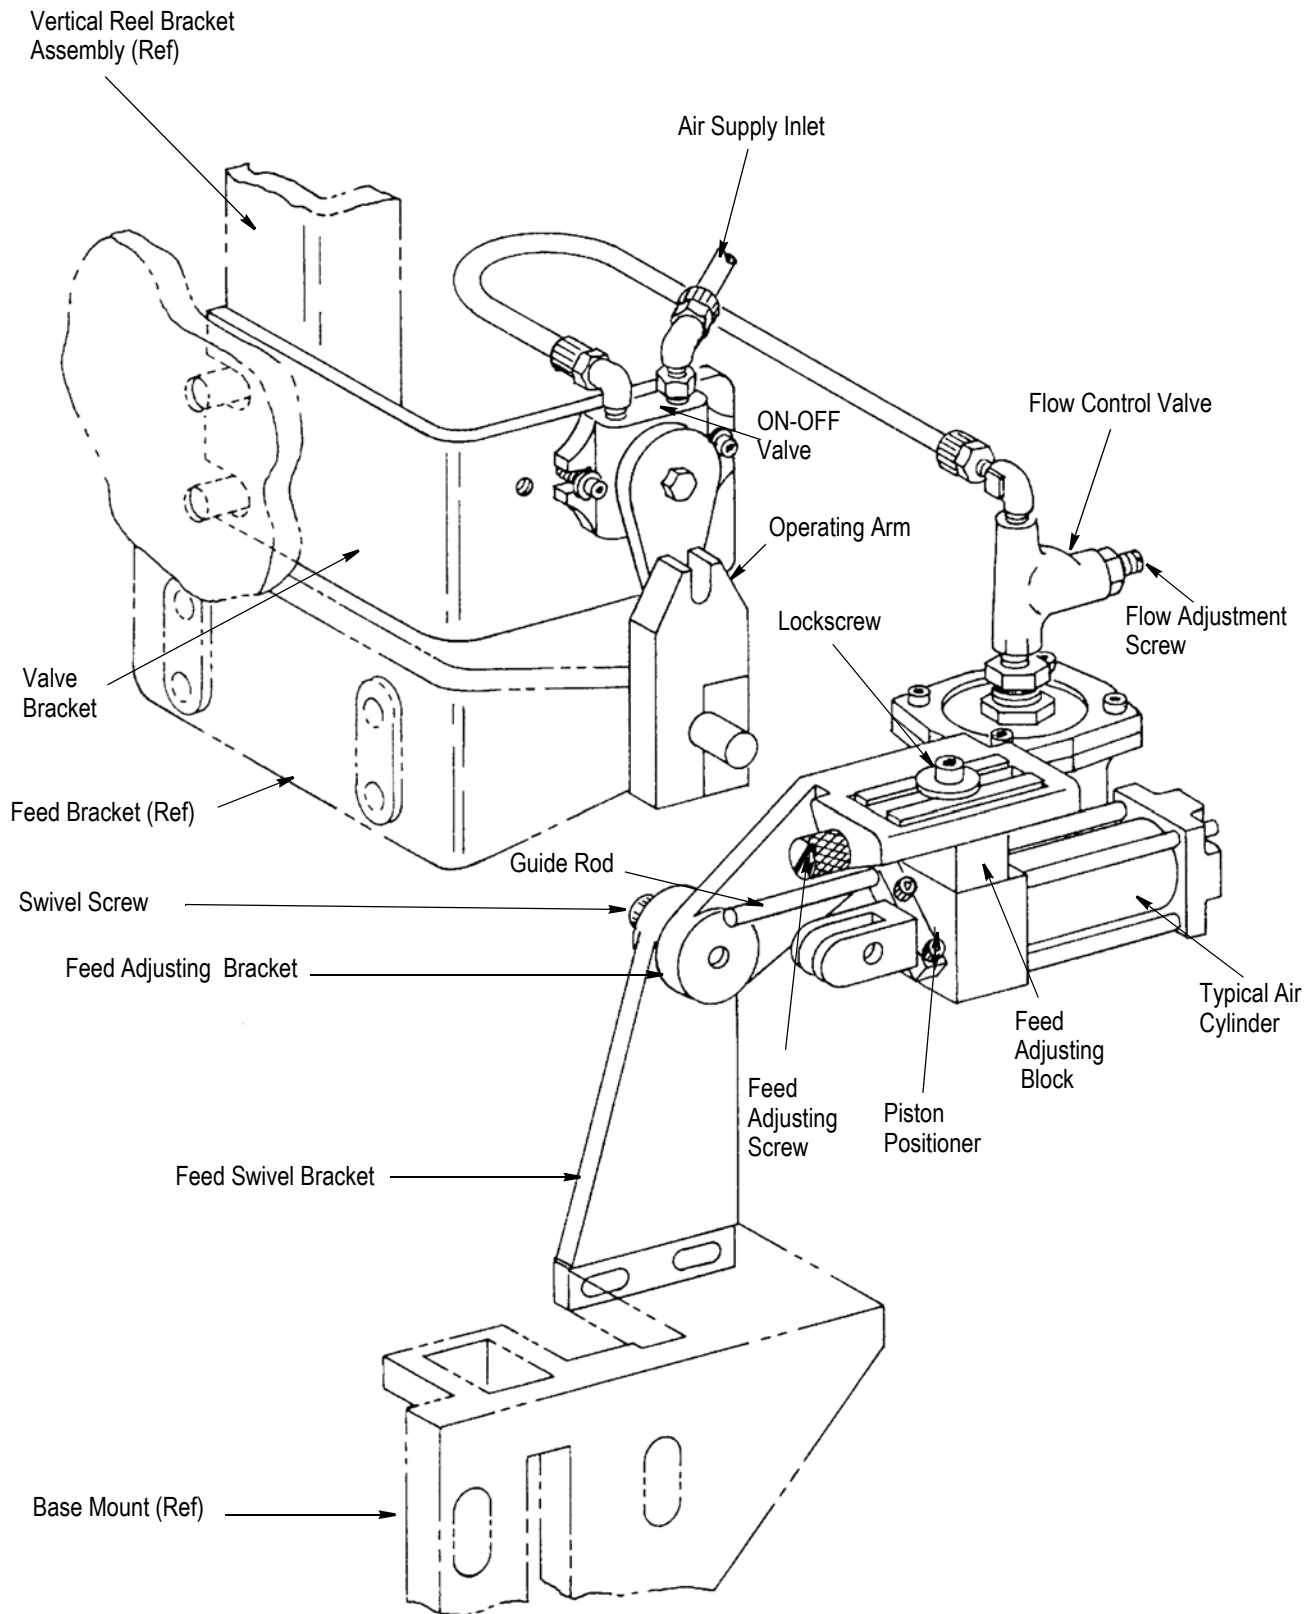

Figure 26
A. Description (Figure 26)
B. Adjustments (Figure 26)